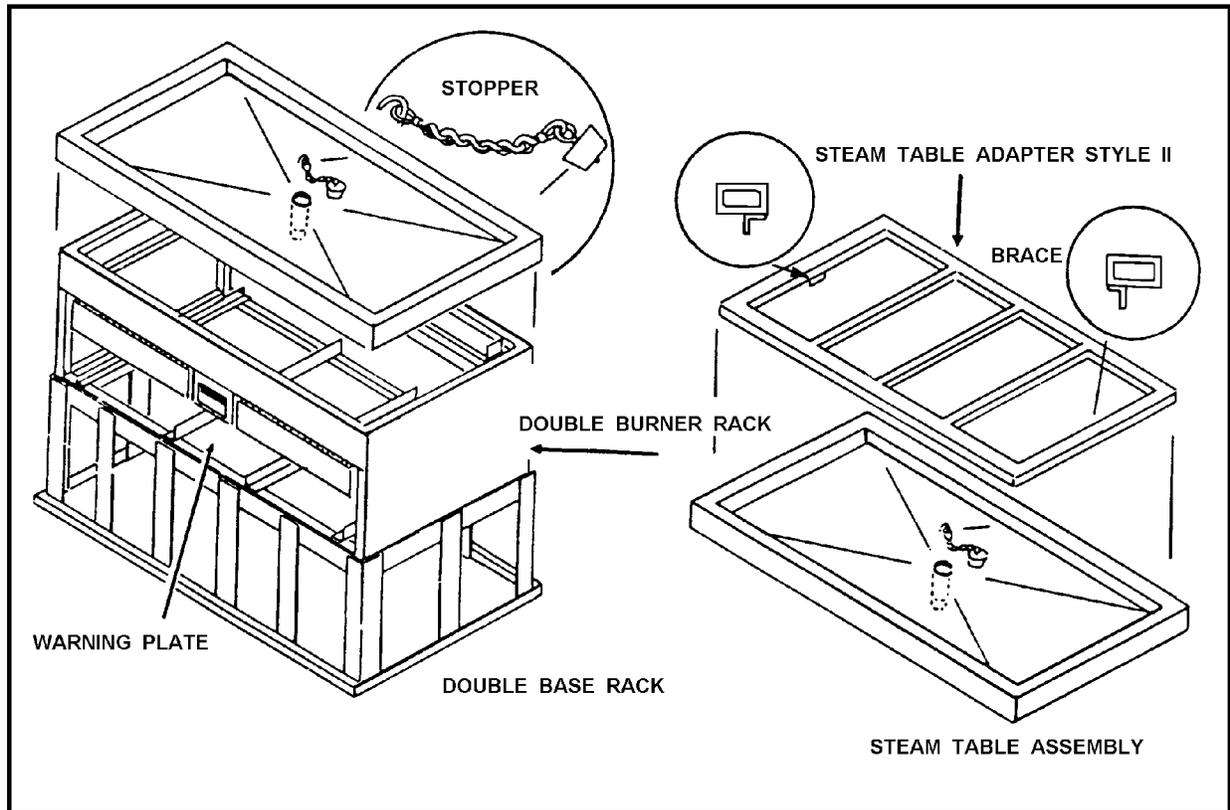

Figure 2-17. Steam table.
2. Prepare the steam table for operation. (See Figure 2-17.)